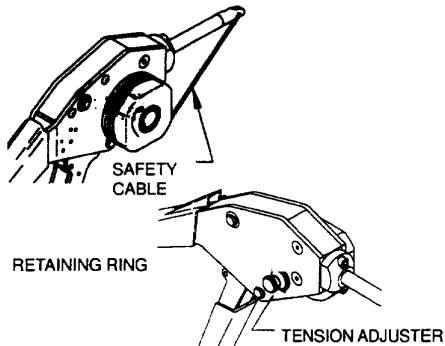

Figure 2-98. Adjustable Tension Safety cable Tool
b. Adjustable Tension Tool. (See figure 2-98). Thread the safety cable through the fastener, ferrule, and tool nose in the same way as with other models. Wrap the cable one full revolution (clockwise) around the tension wheel, and with slight pressure applied by pulling the cable, secure the cable into the slot. Rotate the tension knob until several clicks are heard and felt. If additional tension is required, adjustment can be made with the tension adjuster on the opposite side of the tool.
(1) Completely close the handle to crimp and cut the cable. Hold the tool steady and perpendicular to the cable to maintain consistent cable tension. Release the handle and remove the tool from the crimped ferrule. Remove the excess cable segment from the tool prior to the next application.
(2) If it is more convenient to use the adjustable tension tool with the knob located on the opposite side, remove the retaining ring located below the tension adjuster, slide the knob assembly out of the tool body, and re-insert it on the opposite side. Re-install the retaining ring. See figure 2-98.